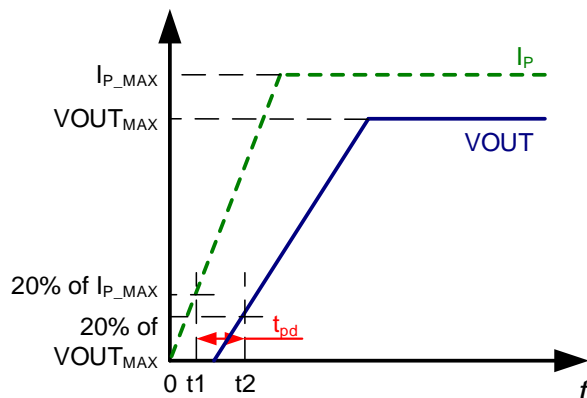

Figure 6: Propagation Delay ( $t_{PD}$ )
2.  $t_2$ :  $V_{OUT}$  reaches 20% of  $V_{OUT\_MAX}$  (see Figure 6).